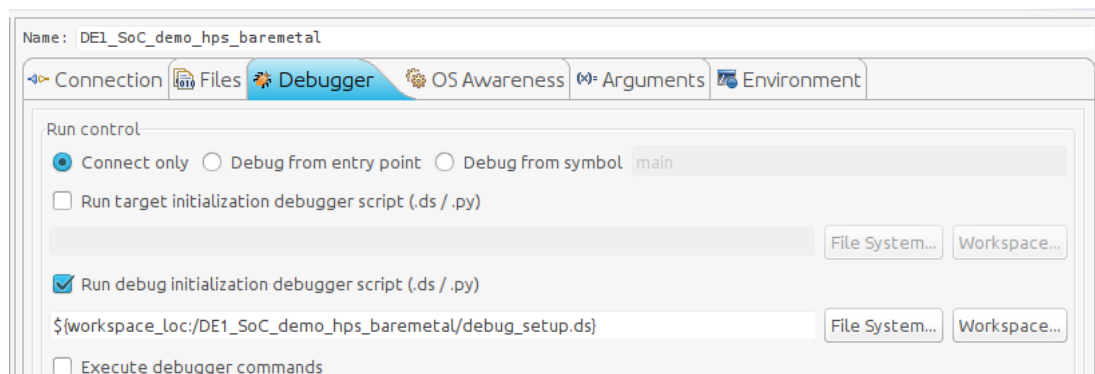

Figure 12-7. Debug Configuration "Debugger" Tab
- b. Enable the "Run **DEBUG** initialization debugger script (.ds / .py)" checkbox. Set the debug script to the one we defined for the project in 12.2.2. You should have something similar to Figure 12-7.